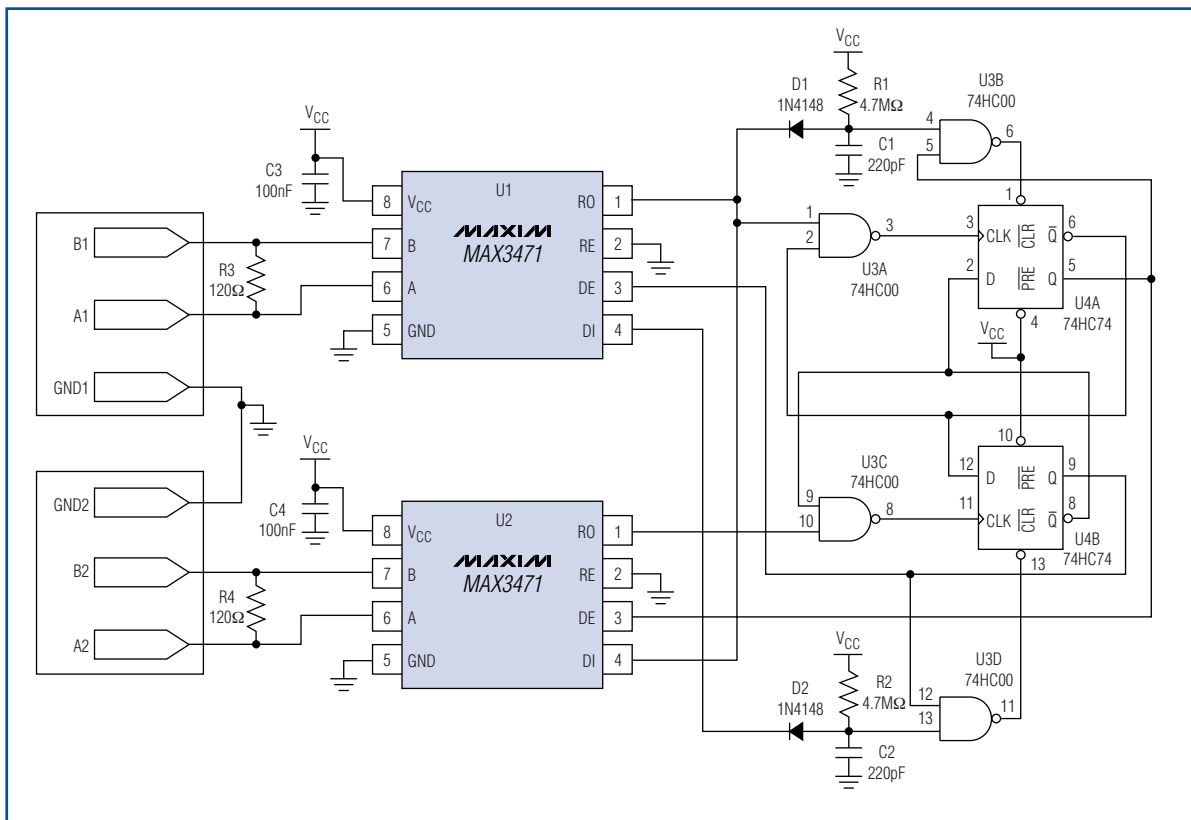

Figure 1. This RS-422 repeater draws only 3 μ A of standby current.
The RS-422 interface is an excellent choice for communicating in noisy environments and over a distance. However, when the distance exceeds the RS-422 capability for reliable data transfer, you must add a repeater. The repeater circuit in **Figure 1**, which must operate from batteries when no power supply is available, draws less than $3\mu\text{A}$ of current from a 3V supply.
Low standby power and true fail-safe operation are the key features in this application. U1 and U2 drive their receiver outputs (RO) high when the RS-422 inputs are open circuited or terminated and undriven. An incoming data byte on the differential inputs A1 and B1 forces a transition on RO of U1, and a state machine (right half of the Figure 1 schematic) is latched ON by the falling edge of RO. The state
An incoming data burst (**Figure 2**, top) is retransmitted as outputs A2 (bottom trace) and B2 (middle trace). U2 de-asserts those outputs 700 μ s after the final transition. Other delays can be implemented by adjusting R1/C1 and R2/C2 as shown in Figure 1.